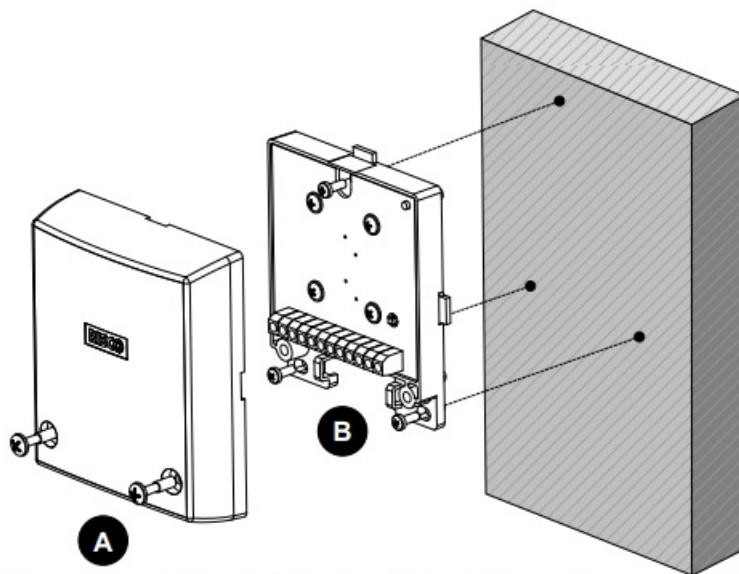

Figure 1: Mounting the detector directly onto a metallic surface
- Remove the cover fixing screws to separate the cover from the base, see Figure 1(A) / 2(B).
Direct mounting on a metallic surface (Figure. 1)
c. Fit the detector using the supplied fixing screws, see Figure 1(B).
- Replace the cover and tighten the cover fixing screws; See Figure 1(A) / 2(B).